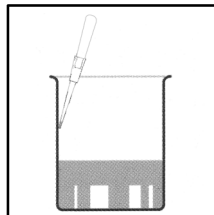

Figure 7
- Hold the tip at an angle against the inside wall of the vessels (Figure 7).